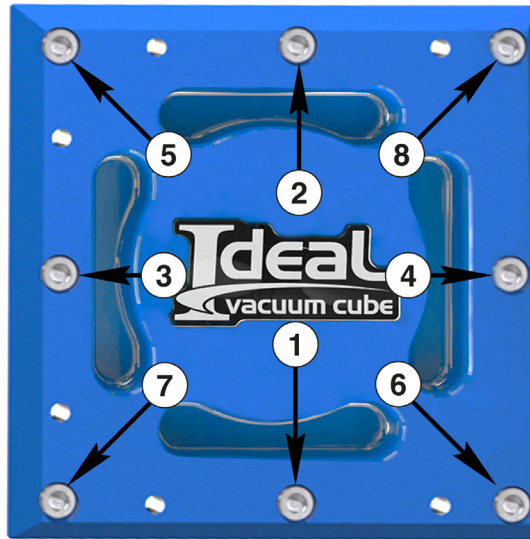

Figure 8 - 6x6 and 9x9 bolt tightening pattern
7. Begin to tighten all the plate bolts gradually (about a 1/2 turn at a time). Use the tightening pattern shown in Figure 8, 9 or 10, corresponding to your plate size. Take several “passes” around the plate until all bolts are snug.